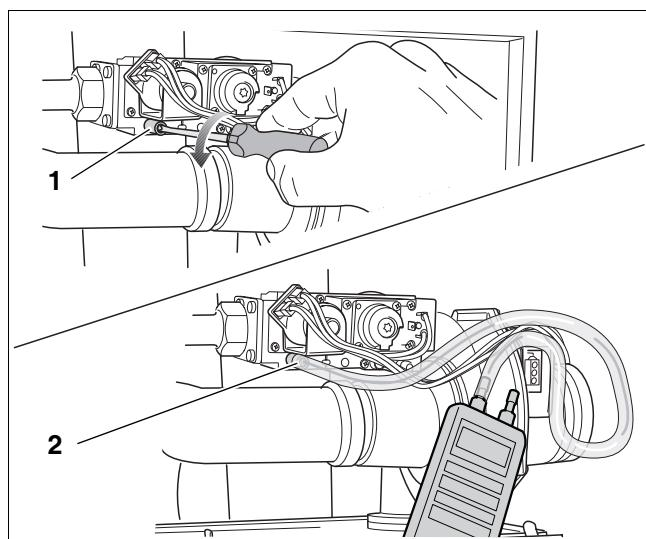

fig. 16 Measuring the gas supply pressure
- Close the gas shut-off valve. Loosen the screw plug on the inlet gas pressure testing nipple by two turns (fig. 16, pos. 1).
- Connect the pressure gauge connection hose to the testing nipple (fig. 16, pos. 2).